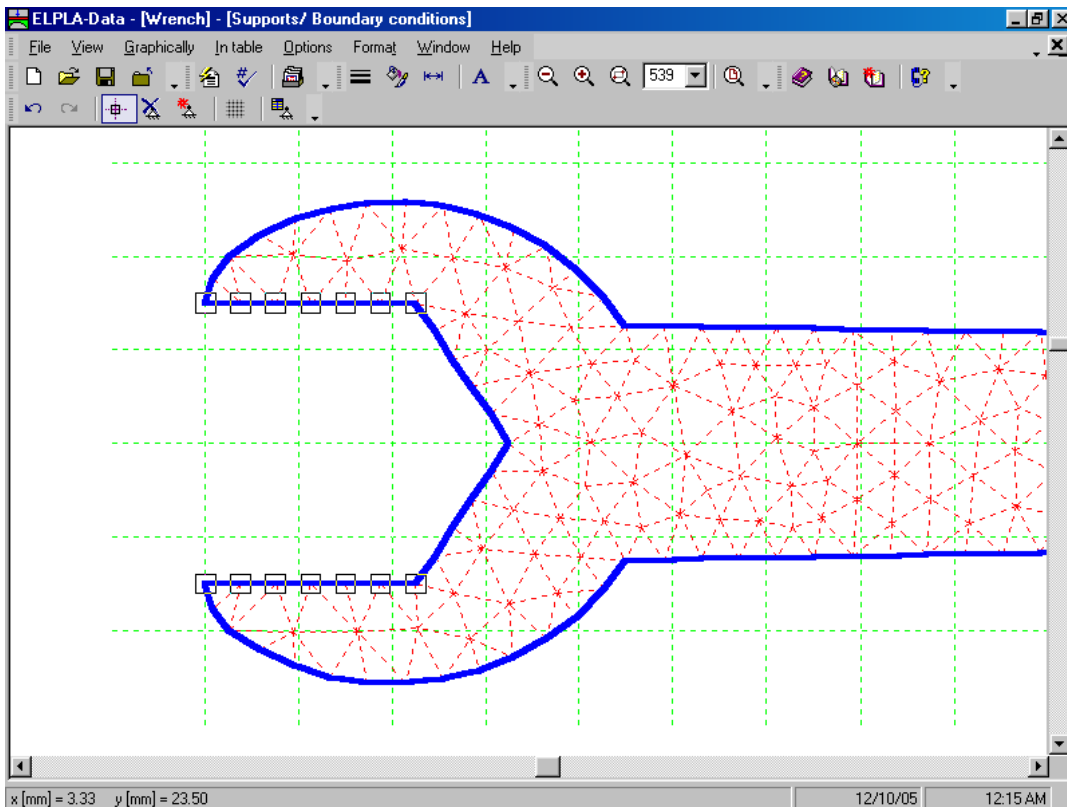
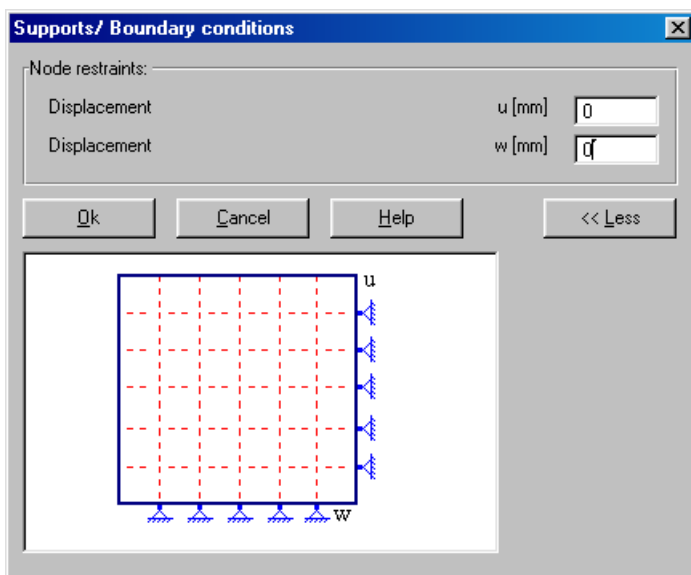

Figure 5-20 Selection of nodes that have supports
Figure 5-21 "Supports/ Boundary conditions" dialog box
- Choose "Select nodes" command from the "Graphically" menu in Figure 5-20. When "Select nodes" command is chosen, the cursor will change from an arrow to a cross hair
- Click the left mouse button on nodes that have supports as shown in Figure 5-20
- After selecting nodes of supports, choose "Add boundaries" command from "Graphically" menu in Figure 5-20. "Supports/ Boundary conditions" dialog box in Figure 5-21 appears